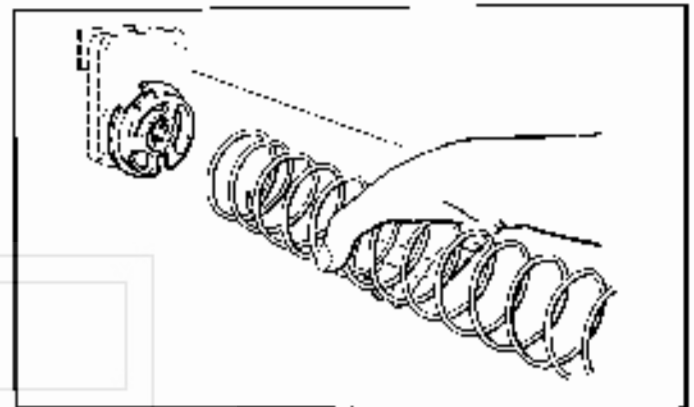

Figure 3. REMOVING AND INSTALLING SPIRAL.
- REMOVAL OF SPIRAL. Grasp the front of the spiral and turn it clockwise. Lift the spiral up and off of the spiral lock. When re-attaching a spiral attach it around the tab on the spiral lock and turn the spiral down and clockwise to lock it in place. Be sure the front end of the spiral is positioned properly (with the front end of the spiral pointing downward on the left side) (see Figure 3). The spiral lock is attached between the spiral retainer tabs. Give a light forward pull on front of the spiral to check if it is locked in place.